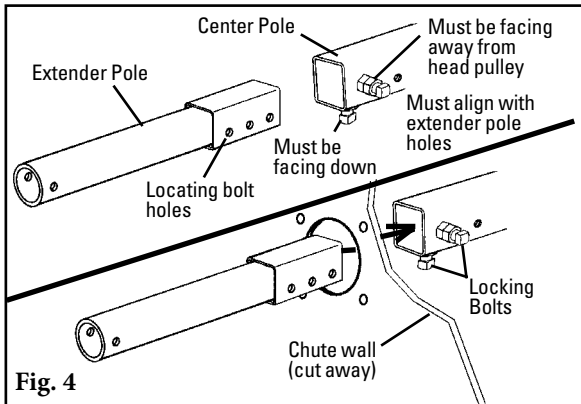

Fig. 4
- Assemble the extender poles to the center pole.** Insert the extender poles through the chute holes and into the center pole and make sure the locating bolt holes align with the center pole holes (holes are offset to the lower half). Position the center pole with the welded nuts and locking bolts on one side facing down and on the adjoining side facing away from the head pulley (Fig. 4). Leave the locking bolts loose.